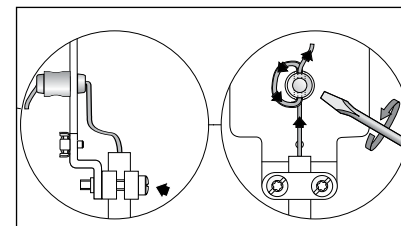

Figure 5: Cable shortening
6. Feed aircraft cable back through safety catch making sure to complete one full loop and tighten locking screw. [Figure 5]